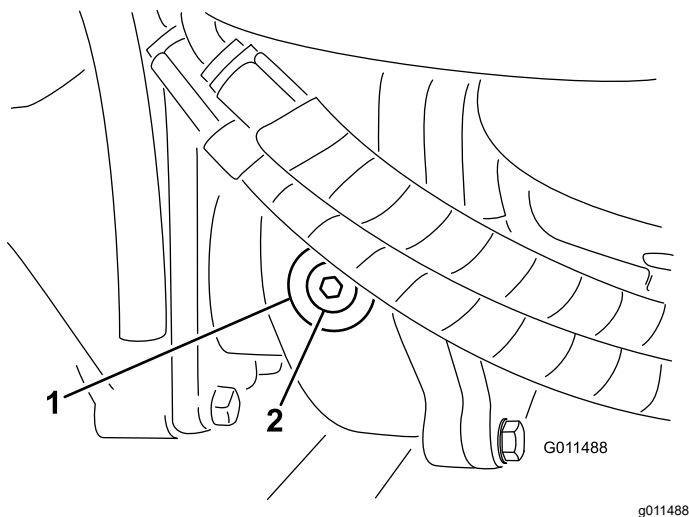

Figure 106
2. Remove the check/fill plug from the left side of the gear box and ensure that lubricant is up to the bottom of the hole (Figure 106).